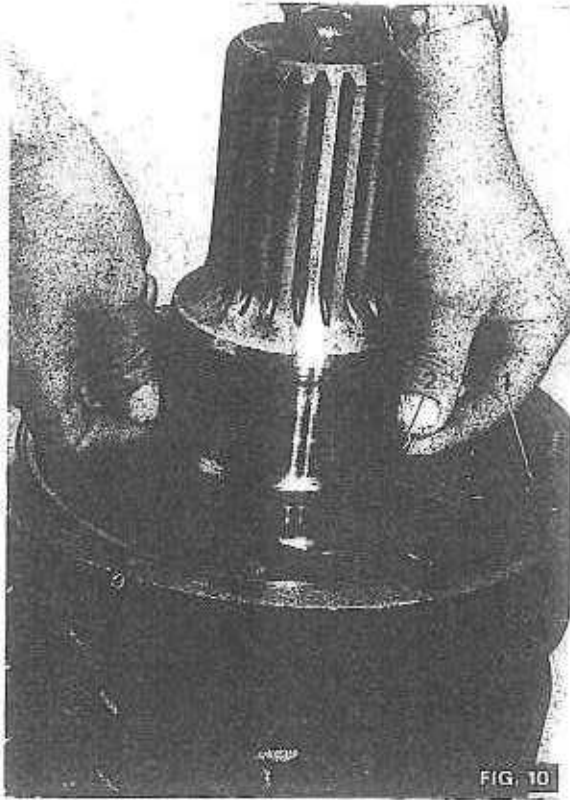

FIG. 10
12. (Fig. 10) Remove the large O-ring (1) from the barrel recess and the metal-end seal (2) from the shaft. Label the end seal 'DRIVE END'.